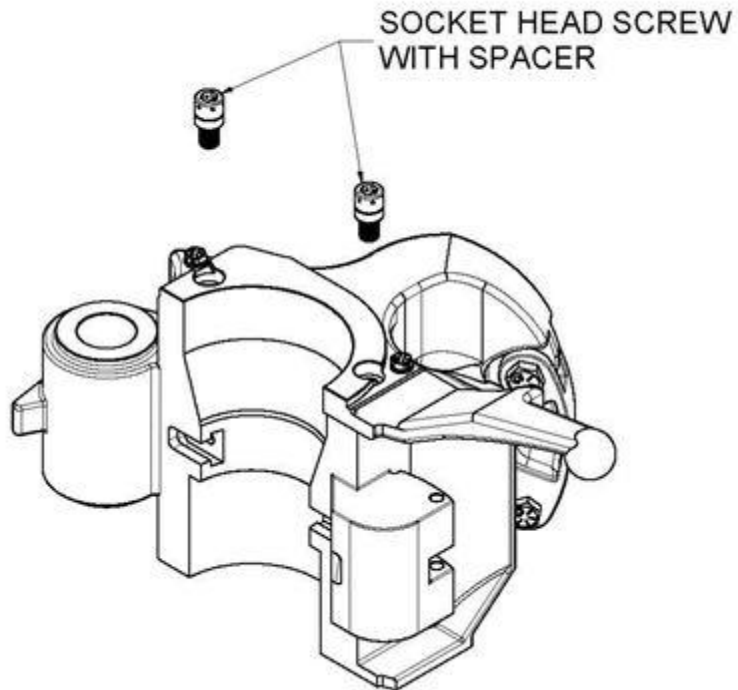

FIGURE 9
- ▶ Cut the safety wire from the retainer bolts and remove the bolts. (See figure 9)
- ▶ Replace the retainer bolts with spacers and safety wire them back to the tie wire bolt in a figure 8 pattern. Twist the wire ends together to prevent the retainers from backing out. (See figure 9)